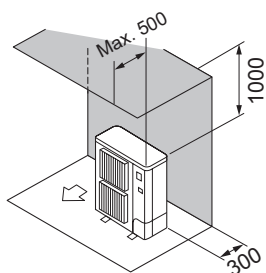

Fig. 2-8
- (2) Obstacles at rear and above only (Fig. 2-8)